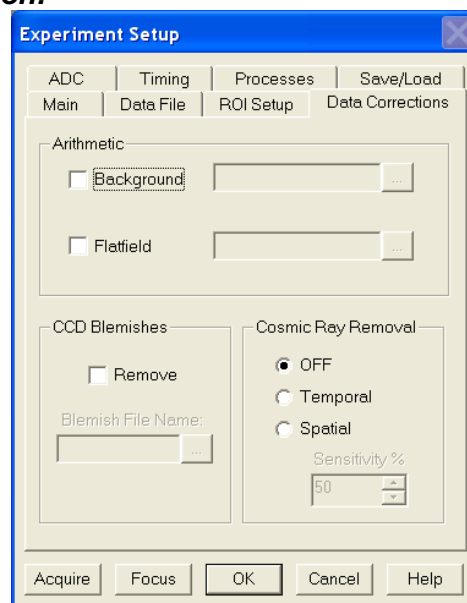

Figure 131. Data Corrections tab
To acquire a background with the shutter open, or if the Acquire Background feature is too restrictive in some other way, a background file can be collected as a normal data file. Once the file is collected and stored, enter the filename in the **Background Subtract** filename box on the **Experiment Setup|Data Corrections** tab (see Figure 131).
2. Click on the **Data Corrections** tab. The Data Corrections tab will be selected (Figure 131).
If the Acquire Flatfield feature is found to be too limiting in some way, a flatfield file can be collected as a normal data file. Once the file is collected, enter the filename in the **Flatfield Correction** filename box on the **Experiment Setup|Data Corrections** tab (Figure 131).
2. Click on the **Data Corrections** tab (Figure 131).